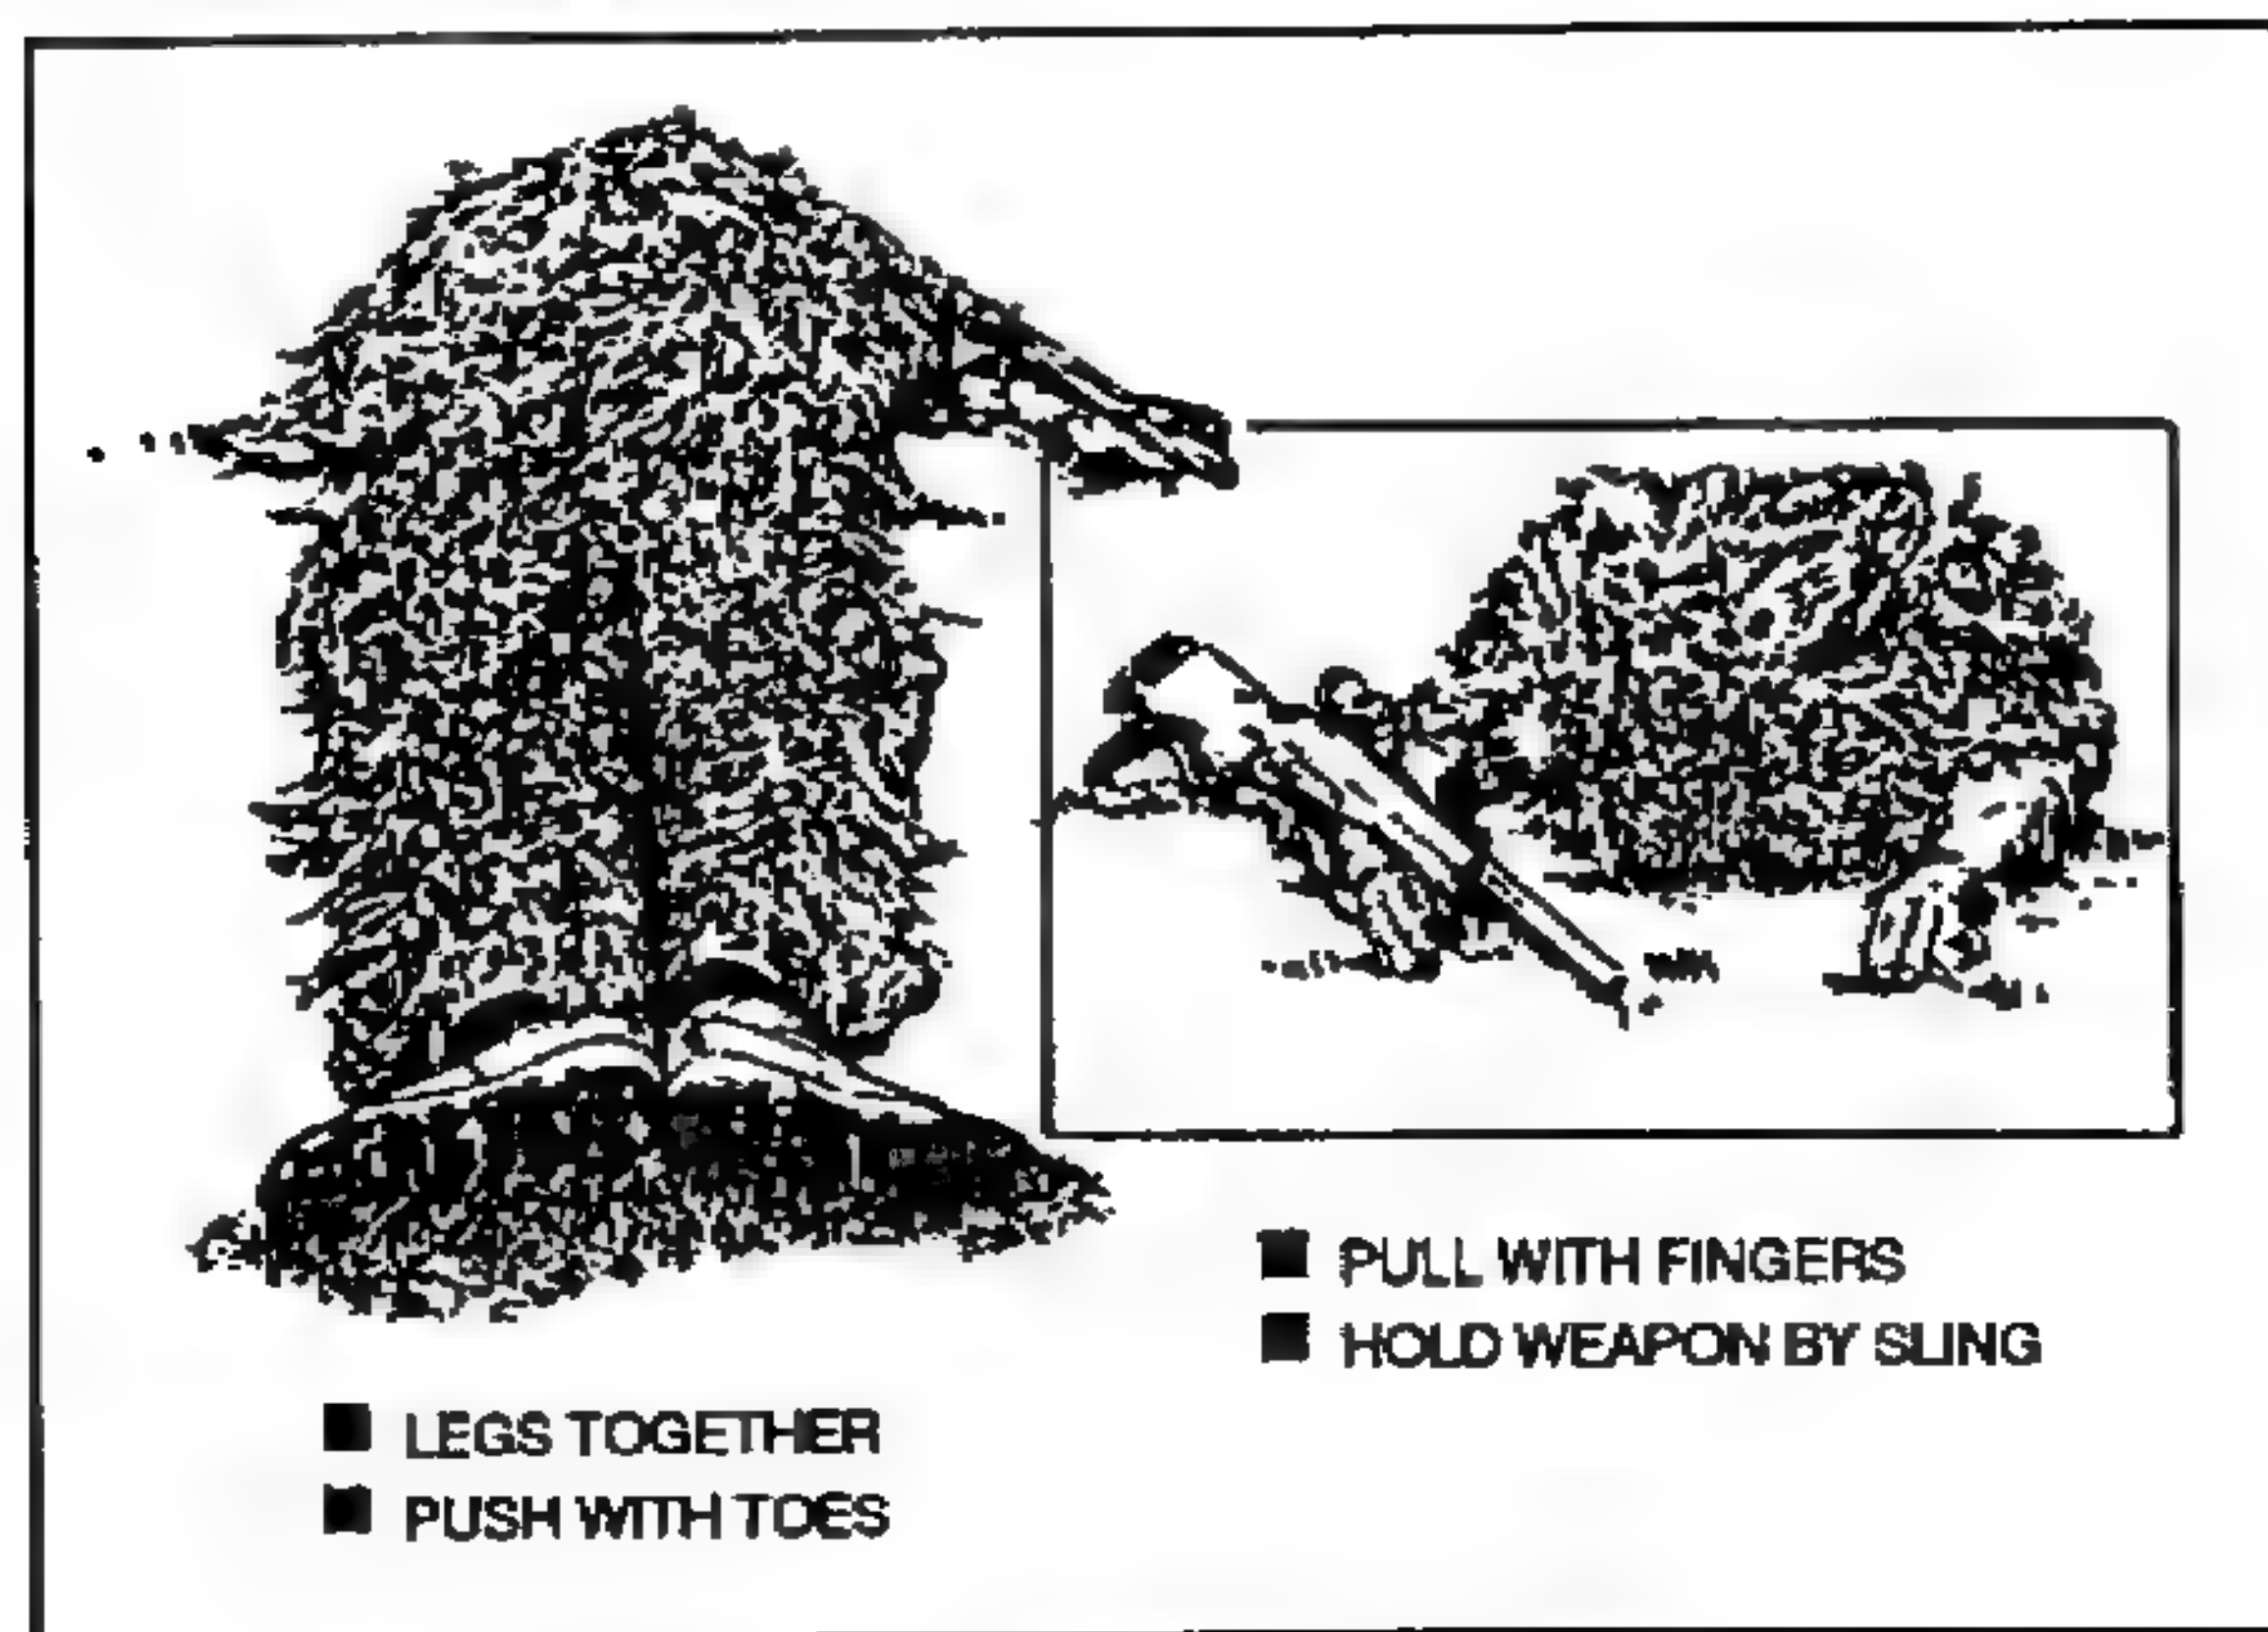

Figure 4-3. Sniper low crawl.
a. **Sniper Low Crawl.** The sniper low crawl (Figure 4-3) is used when concealment is extremely limited, when close to the enemy, or when occupying a firing position.